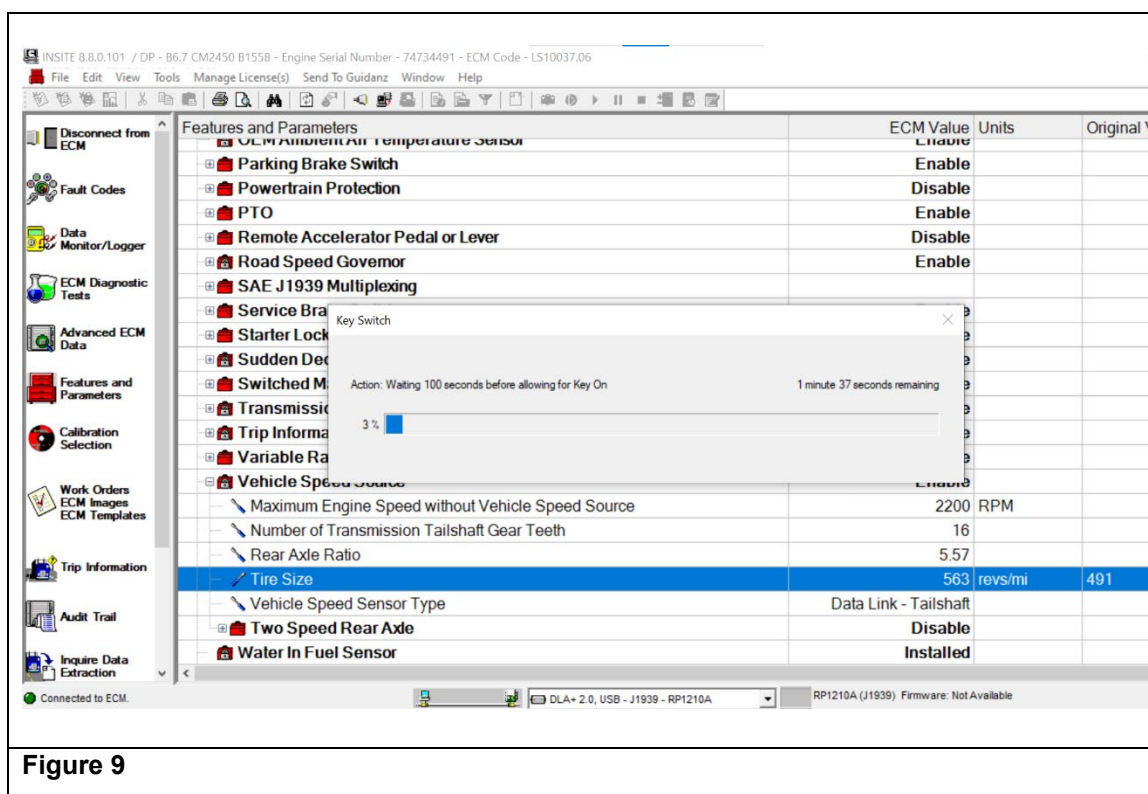

Figure 9
13. Wait for the progress bar to complete. (See Figure 9.)